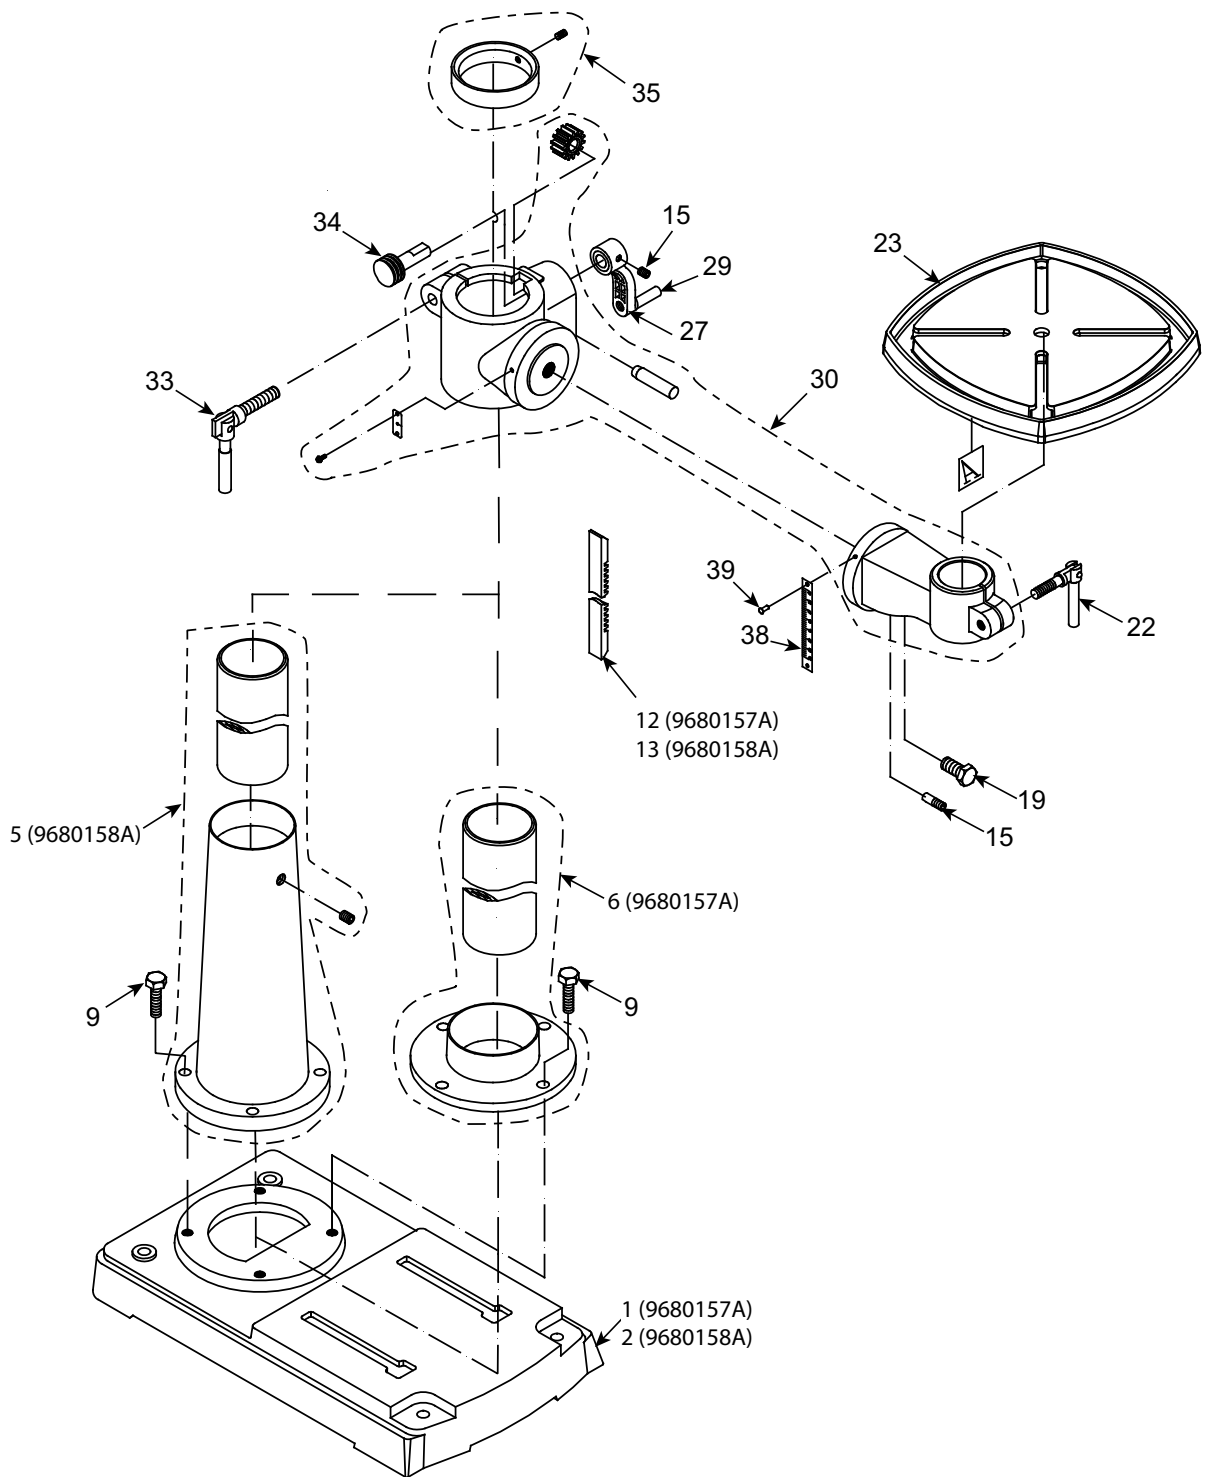

Figure 7 – Replacement Parts Illustration for Base
Refer to Figure 7.
Refer to Figures 7 and 8.
- Apply lubricant to rack and pinion gear (Figure 7, Ref. Nos. 12/13) on column and table assembly.